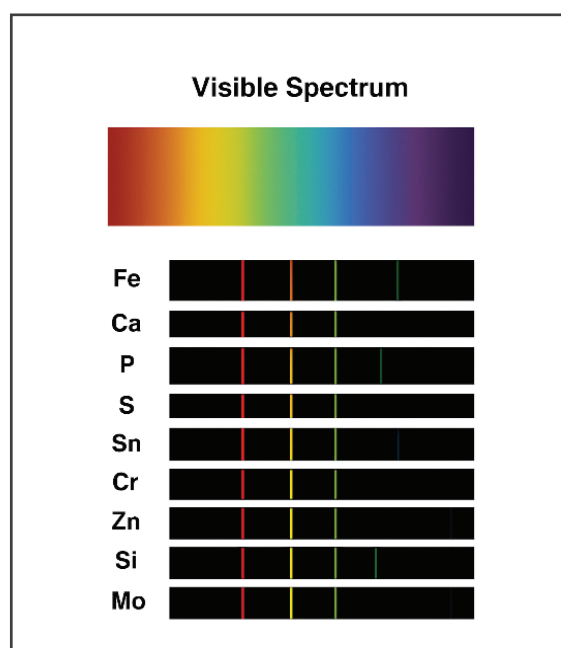

Figure 4. The emission spectra of some of the elements analysed by WearCheck
Light emitted by the elements in the sample falls within the ultraviolet (UV) and visible parts of the electromagnetic spectrum. Figure 4 shows examples of elements measured at WearCheck, with their emission spectra in the visible range, where the coloured lines mark the characteristic wavelengths produced after excitation. For each element, we select one of these lines (a specific colour) for detection and quantification, choosing the wavelength that provides the best sensitivity and selectivity on the ICP-OES.